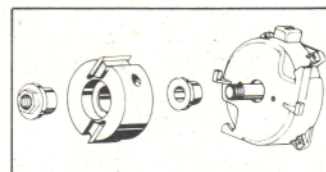

Fig. 40
- (iii) Now put the Shaping Head on the motor shaft with the recessed centre facing outwards and then lock it into position with the special clamping nut, using the special box spanner (Fig. 40).